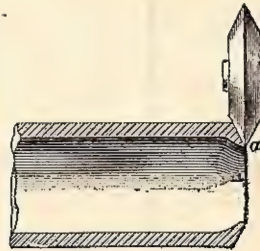

FIG. 17
21. The larger sizes of wrought-iron pipe should be cut off either in a lathe or by a cutting-off machine. Oil should be used freely in cutting pipe, and the wheels of the cutter should be kept sharp, since, if their edges are dull, they will not wedge apart the metal forming the pipe, but will force a large part of it inwards, thereby reducing the bore of the pipe at this point by forming a large burr, as shown at *a* in Fig. 17, which will reduce the flow of water through it. Even if the wheels are kept perfectly sharp, a burr will be formed, but it will be much smaller than in the case of dull wheels. On all good work the burr should be removed.